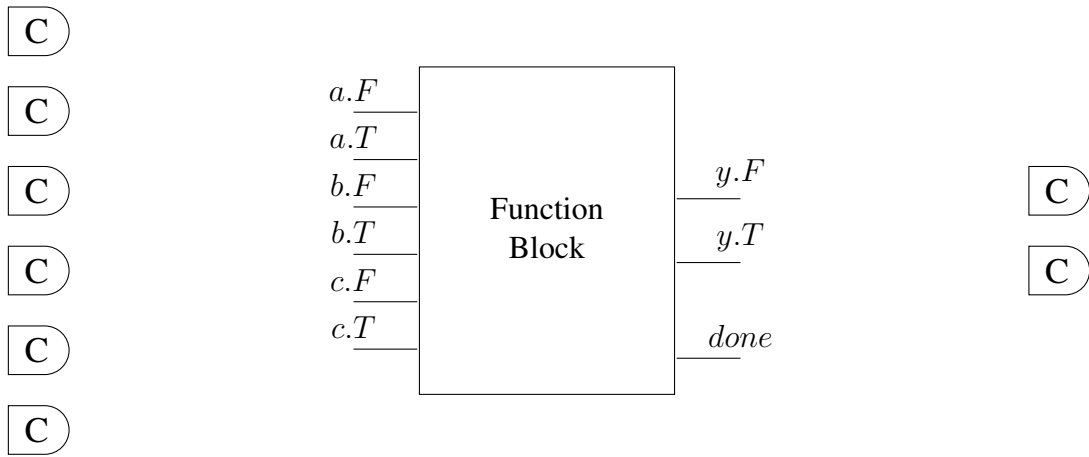

Figure 5: WCHB pipeline template (SPARE)
- Embed the function block in a WCHB pipeline. Draw one stage that feeds the function block and one stage at the output. Use the template shown in Figure 5 for that purpose.